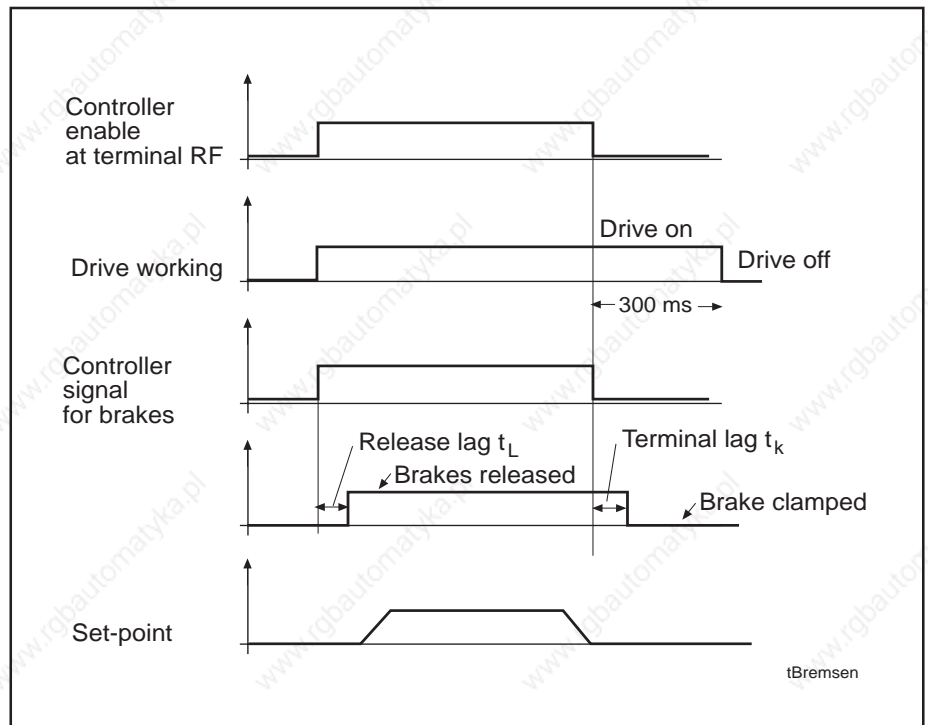

Figure 73: Intervals for clamping and releasing the blocking brake during operation. The t_K and t_L values are listed in the motor data sheets.
- The mechanical brake must be released **prior** to running the drive (Fig. 73) to avoid wear and tear.